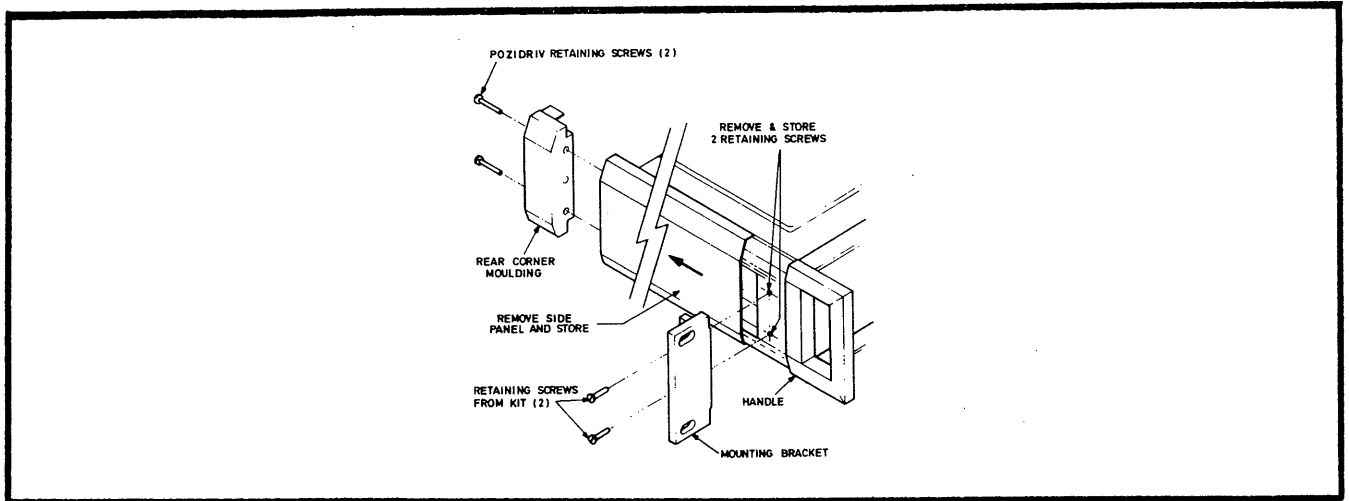

Fig. 3.1 Fitting the Fixed Rack Mounting Kit
3.2.1 The kit contains a pair of mounting brackets and four screws. The method of fitting the kit is shown in Fig. 3.1. The fitting procedure is as follows: